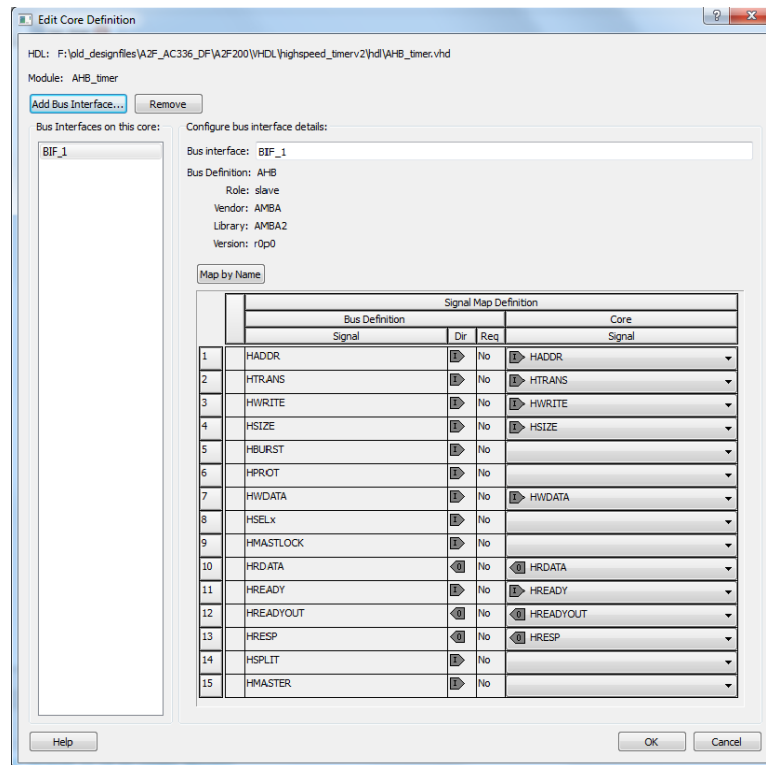

Figure 5 • Add Bus Interface Dialog Box
- Add a bus interface to AHB_timer logic. Right-click on the AHB timer HDL file in the Design Hierarchy and select **Create Core from HDL**. Click on **Add Bus Interface** and select **AHB slave**. The **Edit Core Definition** window is displayed as shown in Figure 5. Click **Map by Name** to map the signals automatically and the configurator attempts to map any similar signal names between the bus definition and pin names on the instance. Map other signals manually that are not mapped by **Map by Name** and click **OK**.
Added new Figure 5 and Figure 6 (SAR 35817).	7, 8